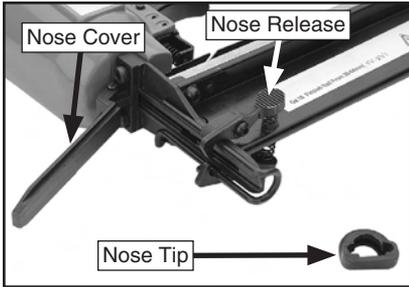

Figure 11. Nose opened to clear a jam.
3. Open the nailer nose by removing the rubber nose tip, squeezing the nose release mechanism (see **Figure 11**), and opening the nose cover.